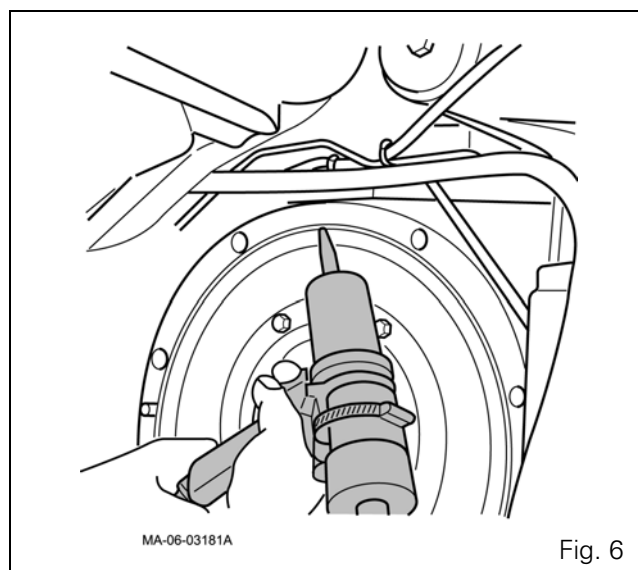

Fig. 6
18. Apply a bead of oil resistant silicone (Silicomet type) to the inner edge of the centre housing (Fig. 6).